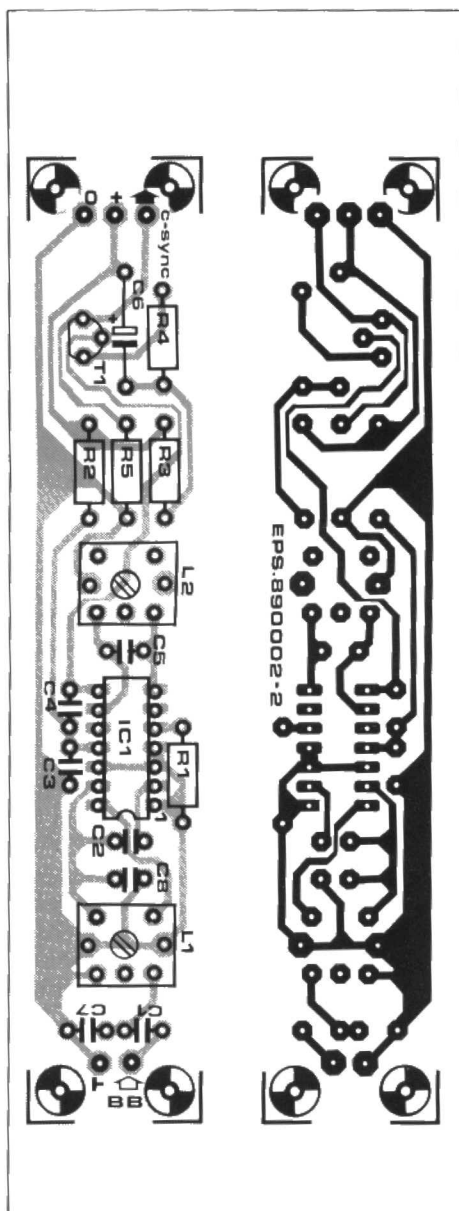

Fig. 9. This narrow PCB holds the TBA120S-based sync-receiver.
Construction of the sync receiver on the PCB shown in Fig. 9 is a matter of routine, and requires no further discussion. In view of the relatively high frequencies involved (0 to 8.5 MHz), the connection between the baseband input (BB) and the relevant output on the indoor unit should be made in thin, 50 or 75 Ω , coaxial wire and BNC sockets and plugs.